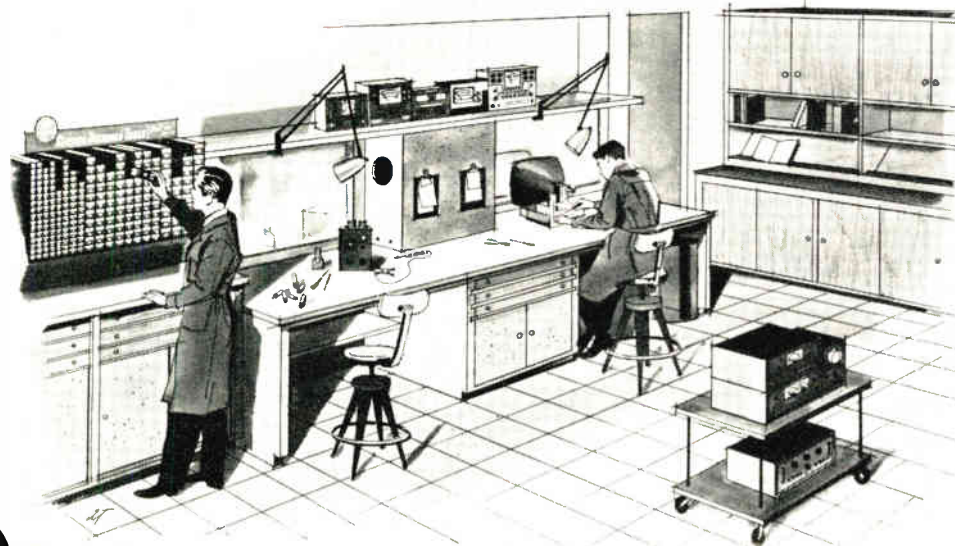

Fig. 1. This TV service work-area is designed for two technicians, each work-bench has many special design features.
An artist's conception of the work-bench area is shown in Fig. 1. This area is designed to accommodate two technicians and includes two separate work-bench units. However, you can build one unit or ten, depending on your requirements. A standard size mirror is attached to the back wall above each bench to save time in adjusting or repairing TV receivers. A speaker enclosure is provided for each bench. Each enclosure has a built-in TV antenna outlet as well as speaker jacks, and a pegboard front which holds small tools, job tickets or other items. Under each bench is a separate tool compartment.
(1) Counter Sales Area. You can increase profits by encouraging "over-the-counter" service and sales. Sales counter incorporates an illuminated display port to merchandise the products you sell. The counter also has a "garage" for the roller cart when it is not in use. This roller cart is used to transport heavy receivers to and from a customer's auto. You can offer this "sidewalk pickup and delivery TV service" to stimulate business.
(2) Tube Inventory and Small Parts Cabinet. This unit is located between the sales counter and workbench and is easily accessible to both. The tube supply is housed in G-E See-lect-a-tube units which are available through your Authorized G-E Tube Distributor. Small parts are contained in a special cabinet below the tube supply.
(3) Service Bench. This unit is shown in Fig. 1 and has been discussed previously.
(4) Operational-Test and Storage Unit. This unit is located in back of the service benches; it is a sturdy "egg crate" type rack, open on both sides. The unit is made up of ports which will accommodate large color sets as well as the smallest portables. Intermittent receivers can be operated while in a port and checked periodically by looking into